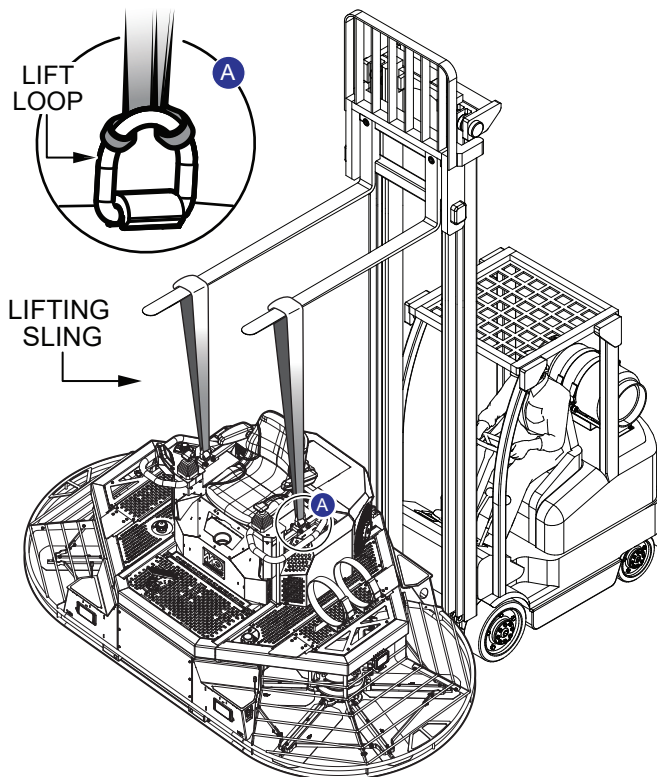

Figure 2. Lifting The Trowel (Lift Loops)
1. Secure the lifting slings (Figure 2) to the lift loops located to the left and right of the operator's seat.